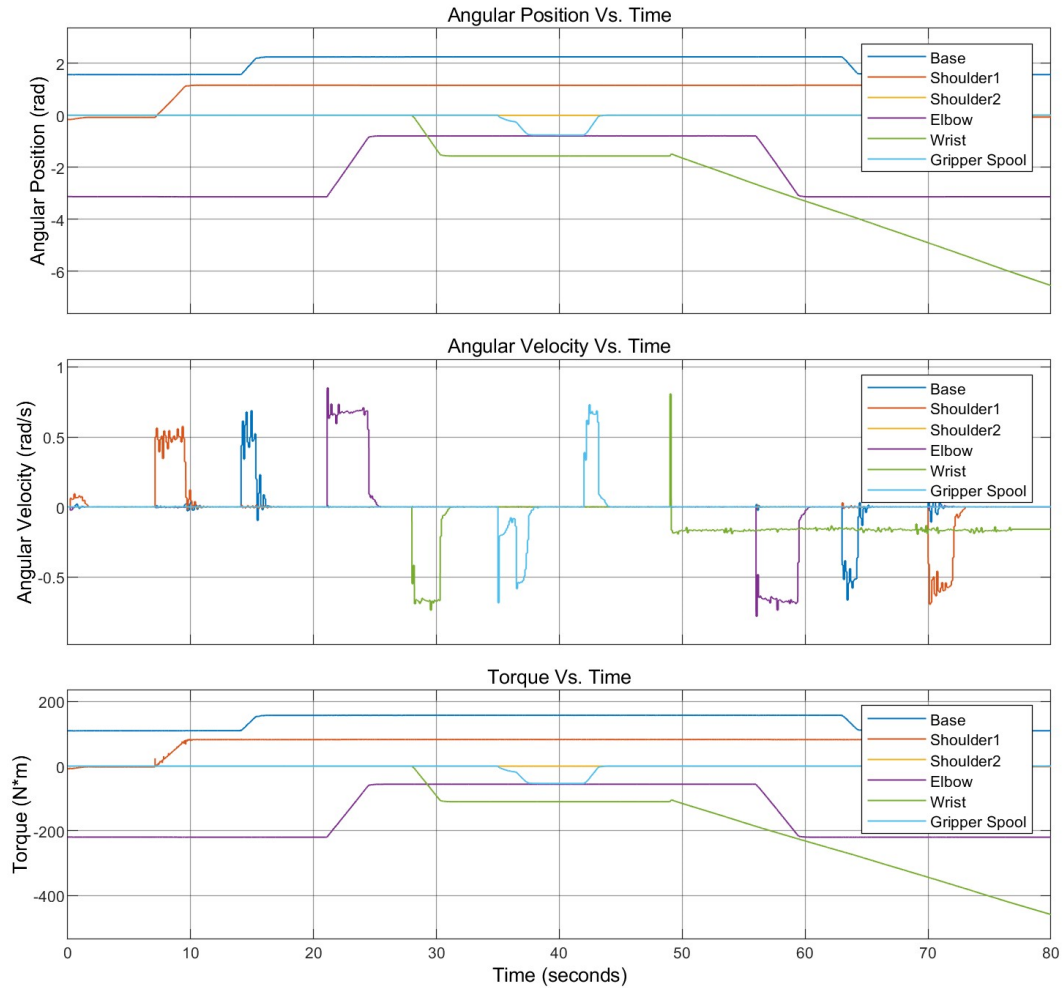

Figure 18: HEBI Arm Plot
33. Open up the “Scope” block and format the scope so that it has a stacked layout for its position, velocity, and torque plots. Set Y-axis scale for windows 2 & 3. Be sure to include proper plot titles, axis labels, legend and color formatting. The color for each of the lines should also be consistent across each of the three plots. Reference figure 18 for how the formatting should look with the simulation plots.
34. With the scope window still open, run the simulation and observe the results. The scope will produce the plots as shown in figure 18 and the 3D model of the arm will recreate the same motion profile in the Mechanics Explorer window as it did with the physical arm.